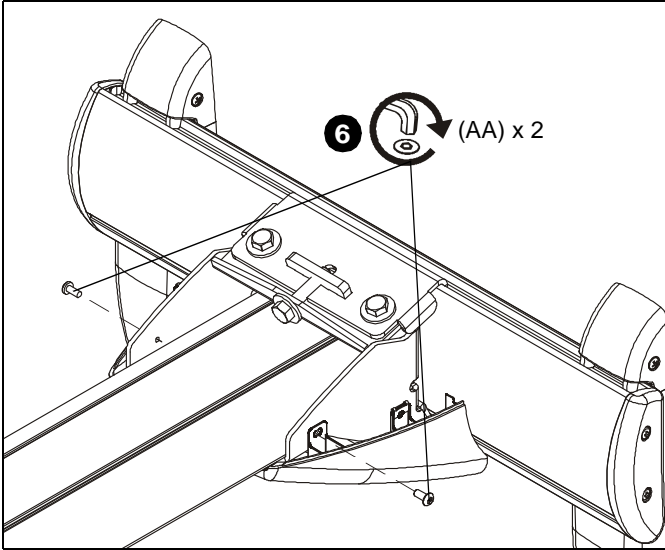

Figure 44
4. Install two 8-32 x 3/8" button head security screws (AA) into lower cover. (See Figure 44)